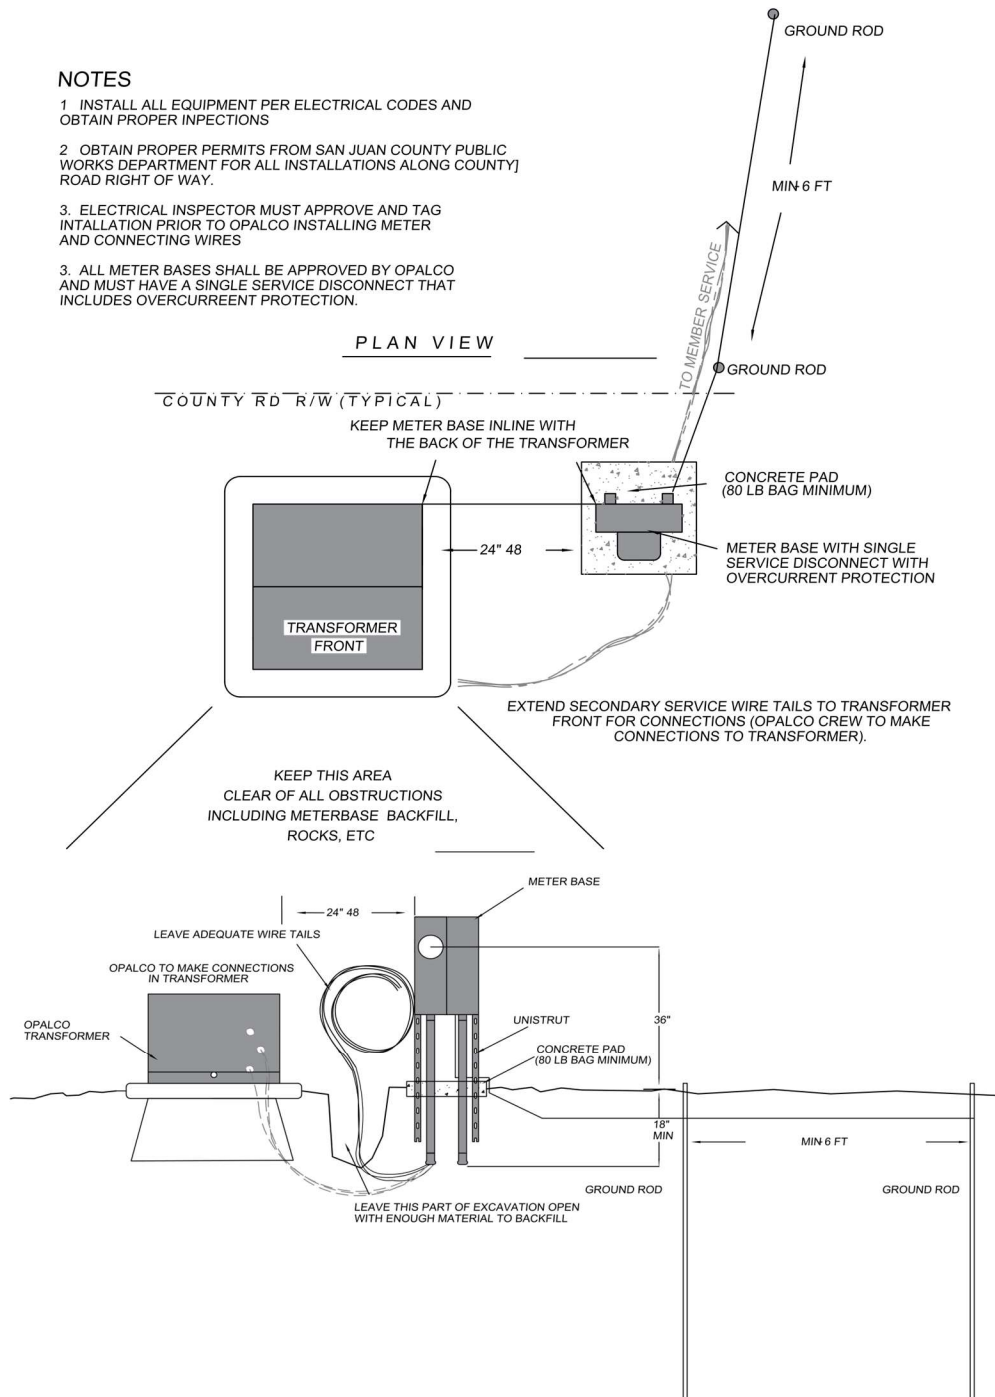

Figure 6 – Underground Transformer Meter Base Installation
- Installed at the transformer, as permanent and freestanding (see **Figure 5 – Pole-Mount Transformer /Meter Installation** and **Figure 6 – Underground Transformer Meter Base Installation**) and shall maintain 36" (inches) of clearance from center of installed meter to finished grade.
See Figure 6 – Underground Transformer Meter Base Installation for an example of the correct installation design.